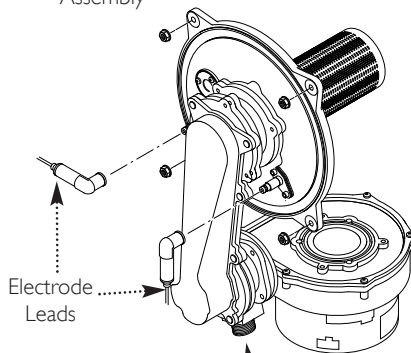

Fig. 76
9. Carefully draw the fan, collector and cover assembly forward, being careful to retain the injector in the venturi (Figs. 76 & 77).